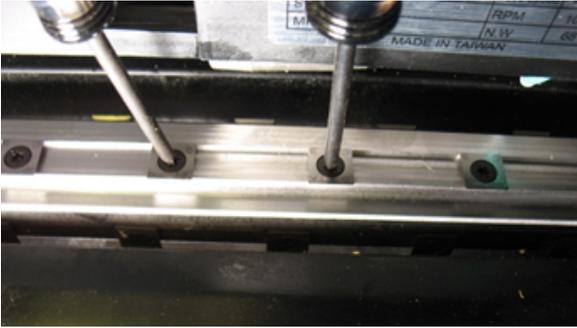

Figure 14: Cutterhead
1. The knife inserts on the 12" Planer are four-sided. When dull, remove each knife, rotate it 90° for a fresh edge, and re-install it. No further adjustment is necessary. Use a Torx wrench (T20) to remove the knife insert screw. Use a second Torx wrench to hold the cutterhead (from rotating) in position (in another screw). **⚠ WARNING!** DO NOT USE YOUR HAND TO HOLD THE CUTTERHEAD! See Fig. 14.